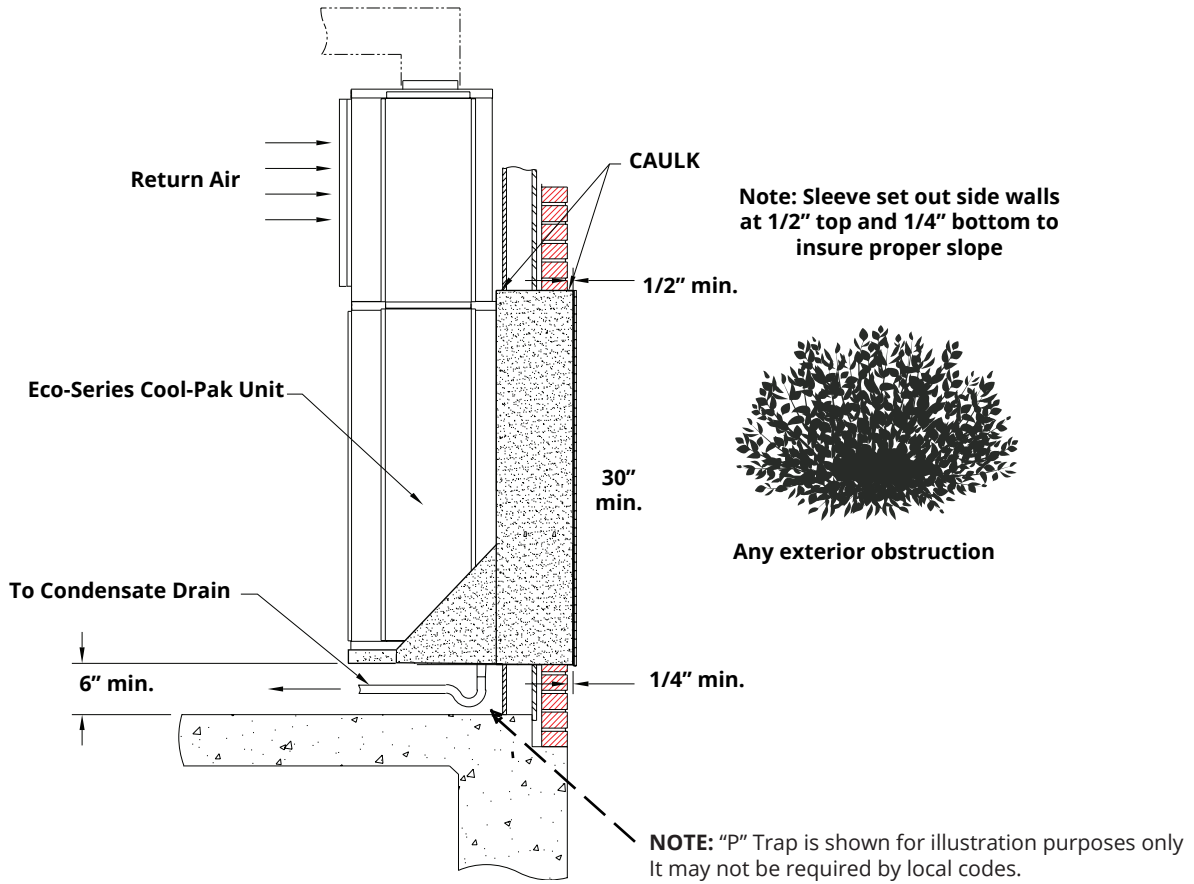

FIGURE 4
- 7. Unique "Sleeve Drain" Condensate System** - (Also see Figure 4) A factory installed drain line connects the evaporator drain pan to a vertical pipe connection in the base pan. Evaporator condensate is delivered from the unit to a catch tray in the wall sleeve and exits the sleeve through the 3/4" male NPT fitting.